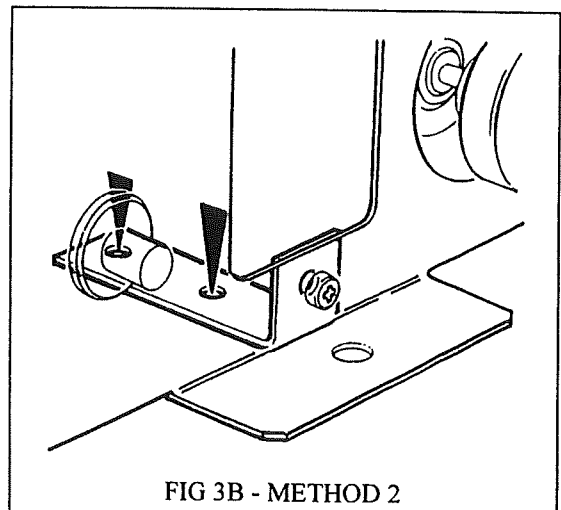

FIG 3B - METHOD 2
The burner unit can be fixed in the fireplace in two alternative ways. Method 1 ( see fig 3a ) is the simplest but if the hearth is such that the drilling a fixing hole in the hearth would be difficult or unsightly method 2 ( see fig 3b ) should be employed.
- Mark on the fireplace floor the position of one of the fixing holes in the bracket which will require attachment to the front leg see fig 3b. There are two holes in this bracket to allow the soundest and most even surface of the fireplace floor to be used for fixing.